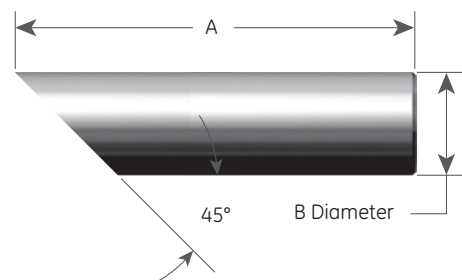

Figure 62: Drift Pin Specifications
4. Drift Pins: Two drift pins are required for the removal of the disc from the disc holder. Refer Figure 62 and Table 17 for drift pin specifications.